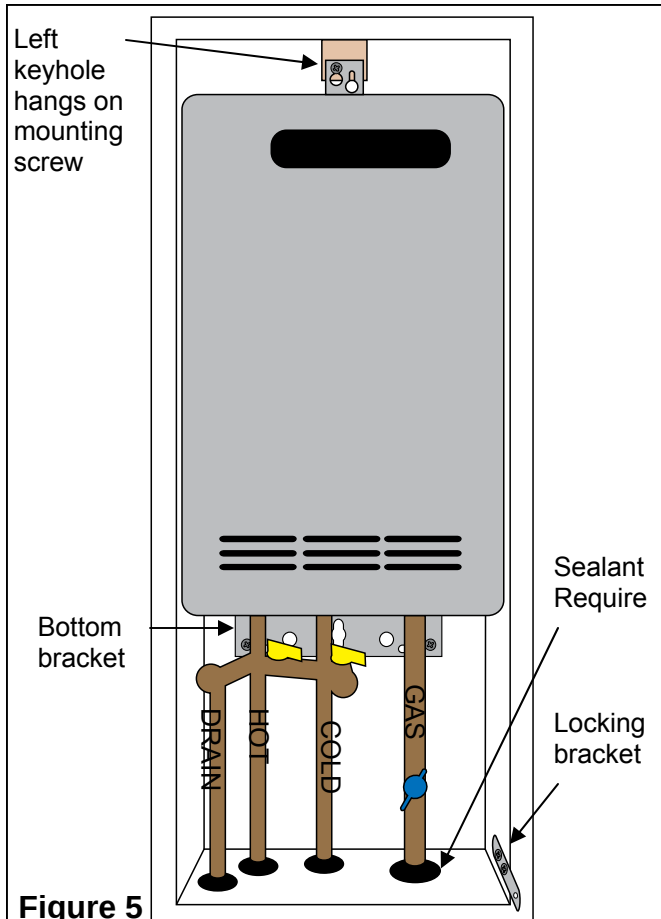

Figure 5
15. Install the locking bracket with 2 washers and 2 lock nuts. (Figure 5)